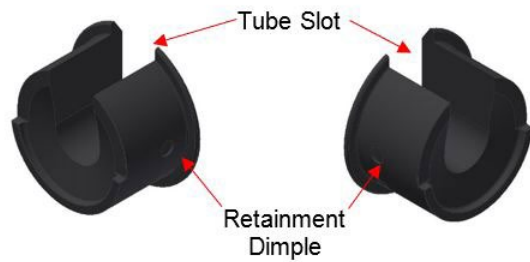

Figure 25
3. Correct insert orientation is essential to correct assembly of Phastite® connectors, ensure that the dimples are orientated left and right (not up and down) (Figure 25).
4. For all inserts except the SHAPES, ensure that the tube slot is orientated upwards (Figure 25).